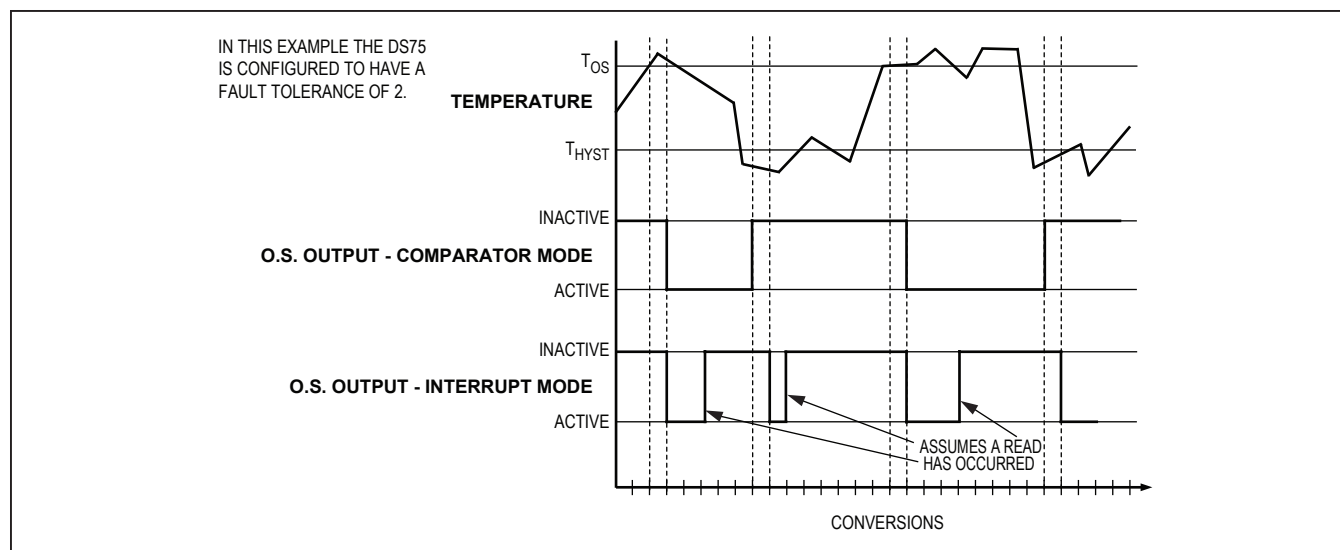

Figure 4. O.S. Output Operation Example
When the thermostat is in comparator mode, O.S. can be programmed to operate with any amount of hysteresis. The O.S. output becomes active when the measured temperature exceeds the  $T_{OS}$  value a consecutive number of times as defined by the F1 and F0 fault tolerance (FT) bits in the configuration register. O.S. then stays active until the first time the temperature falls below the value stored in  $T_{HYST}$ . Putting the device into shutdown mode does not clear O.S. in comparator mode. Thermostat comparator mode operation with FT = 2 is illustrated in Figure 4.
a consecutive number of times equal to the FT value in the configuration register. Once activated, O.S. can only be cleared by either putting the DS75 into shutdown mode or by reading from any register (temperature, configuration,  $T_{OS}$ , or  $T_{HYST}$ ) on the device. Once O.S. has been deactivated, it will only be reactivated when the measured temperature falls below the  $T_{HYST}$  value a consecutive number of times equal to the FT value. Again, O.S. can only be cleared by putting the device into shutdown mode or reading any register. Thus, this interrupt/clear process is cyclical between  $T_{OS}$  and  $T_{HYST}$  events (i.e.,  $T_{OS}$ , clear,  $T_{HYST}$ , clear,  $T_{OS}$ , clear,  $T_{HYST}$ , clear, etc.). Thermostat interrupt mode operation with FT = 2 is illustrated in Figure 4.